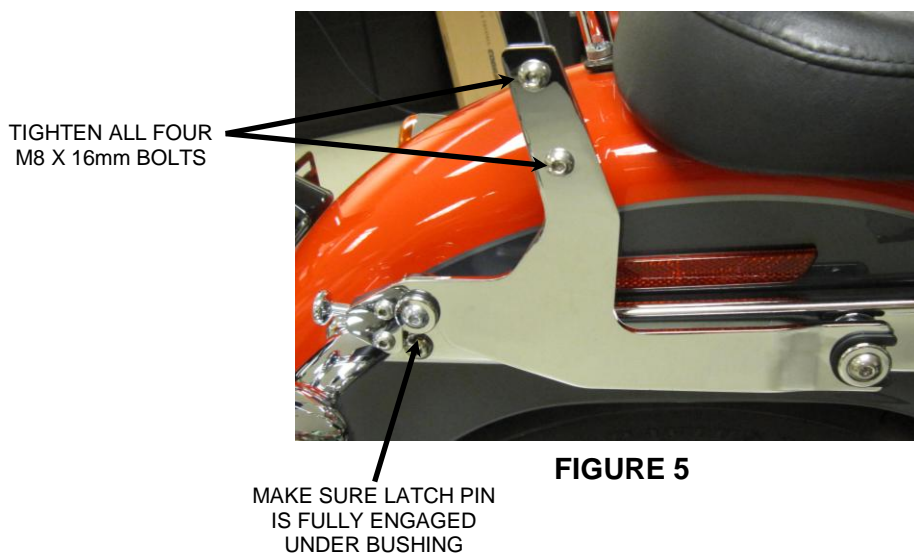

FIGURE 5
15. Pull backward on both detachable latch knobs and then push downward on the backrest to allow the backrest to sit completely on the rear mounting bushings. Then release the detachable latch knob to fully engage the latch pin underneath the mounting kit bushing. See **FIGURE 5**.
16. Always check to make sure both detachable latch pins are fully engaged on the bottom of the mounting kit bushing. Failure to fully engage the detachable latch pin could cause the backrest to come loose while riding. See **FIGURE 5**.
17. Pull backward on the top of the sissy bar and then tighten all four M8 X 16mm bolts. See **FIGURE 5**.